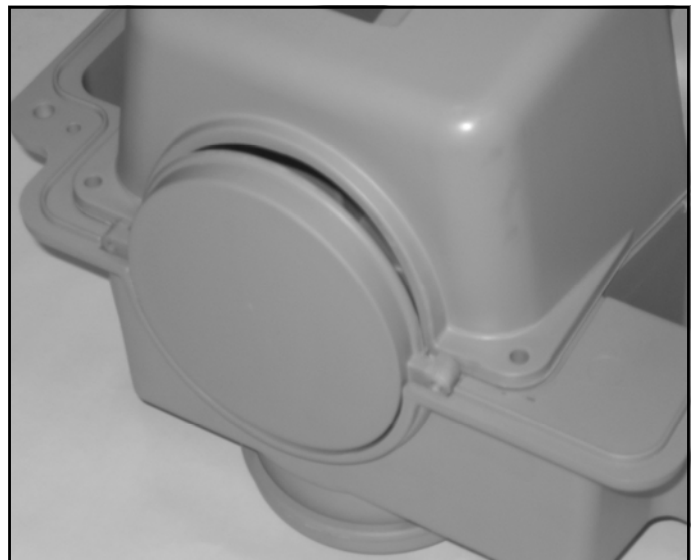

Figure 14 Vent Cover fitted in Top Vent opening
1. Ensure the vent cover is fitted to seal the top vent opening. (see Figure 14)